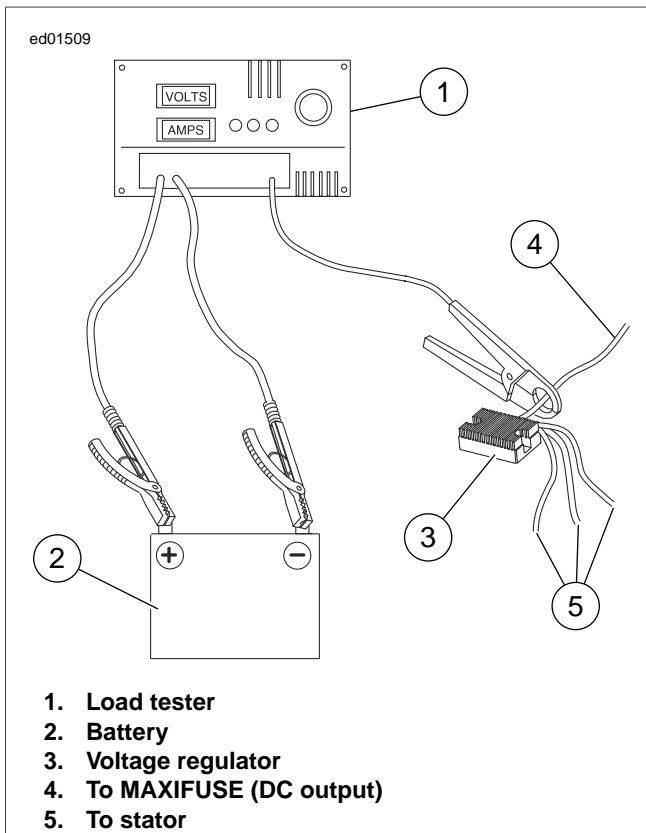

Figure 1-17. Current and Voltage Output Test
1. See Figure 1-17. Connect load tester.
4. See Figure 1-17. After removing the load, read the load tester voltage meter.